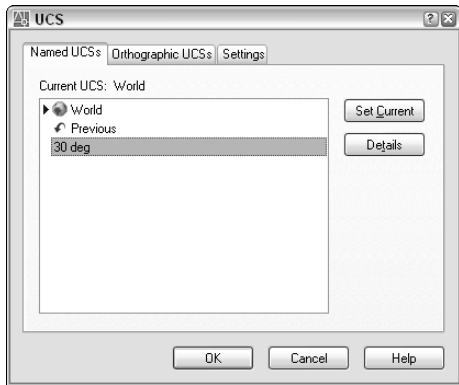

Figure 8-18: Use the UCS dialog box to save and restore a UCS.
2. Choose Tools ⇨ Named UCS to open the UCS dialog box with the Named UCSs tab on top, as shown in Figure 8-18. If your current UCS is not named, it is listed as *Unnamed* and highlighted. Previously named UCSs are also listed. You can also use this dialog box to return to the previous UCS or the World Coordinate System (WCS).